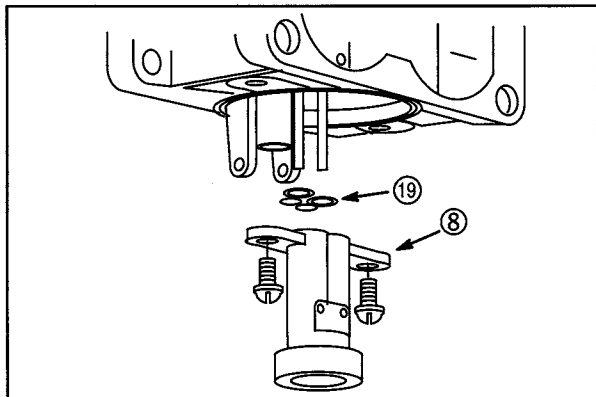

Fig. 127
6. Install emulsion tube body (8) with new gasket (19), **Fig. 127**. Tighten screw securely.